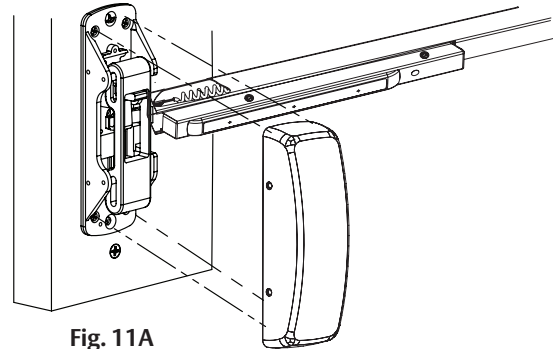

Fig. 11A
1. Secure chassis cover to chassis using (4) #8-32 x 5/16 oval head machine screws (Fig. 11A).